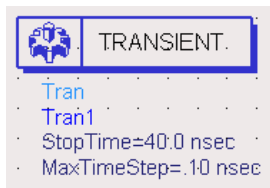

Figure 4-1. The ADS Simulation-Transient Component
1. Select the **Simulation - Transient** from the component palette. An instance of the TRANSIENT component is attached to your cursor (see Figure 4-1).